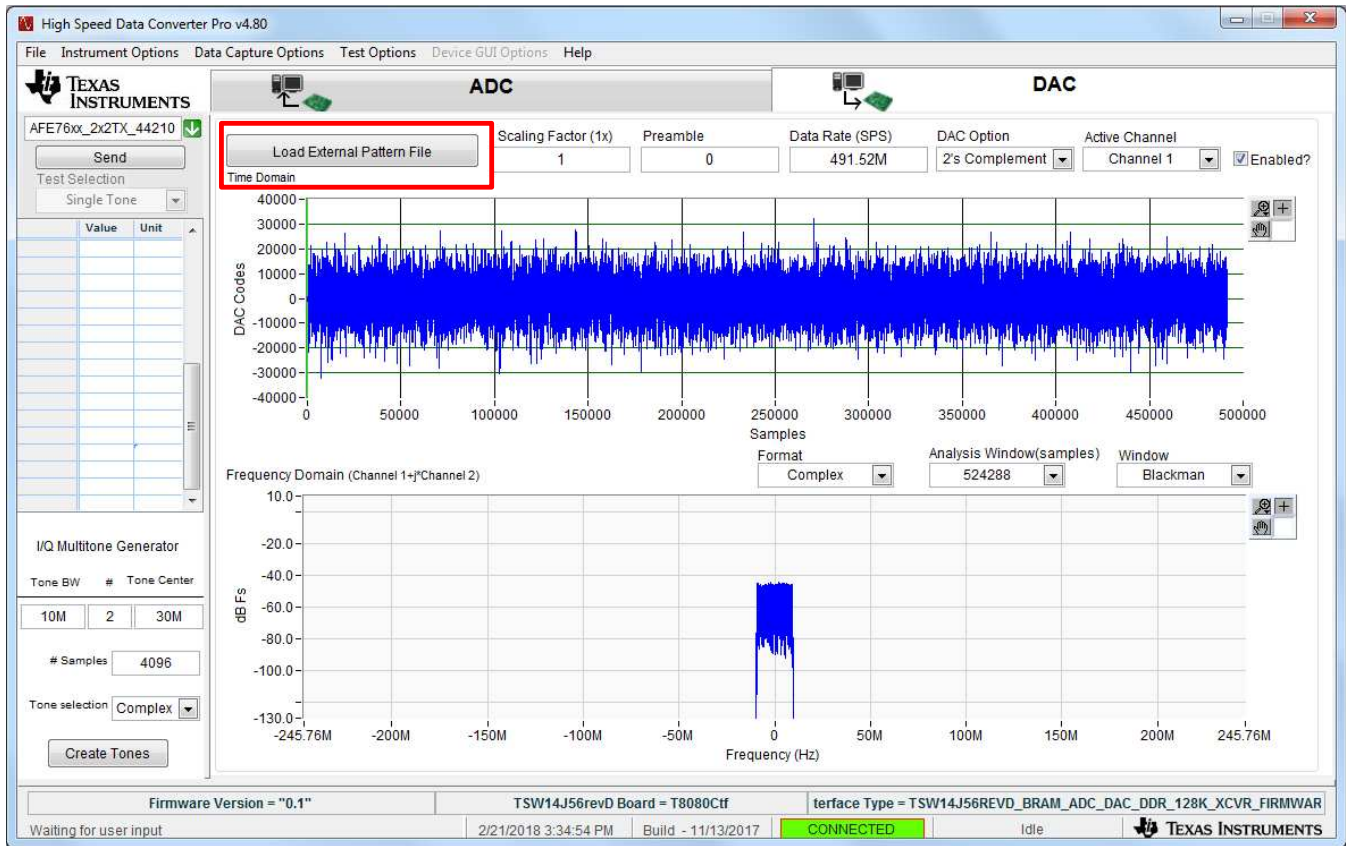

Figure 6. HSDC Pro Load Custom Waveform
- Or, load the custom waveform provided by the customer (see Figure 6).